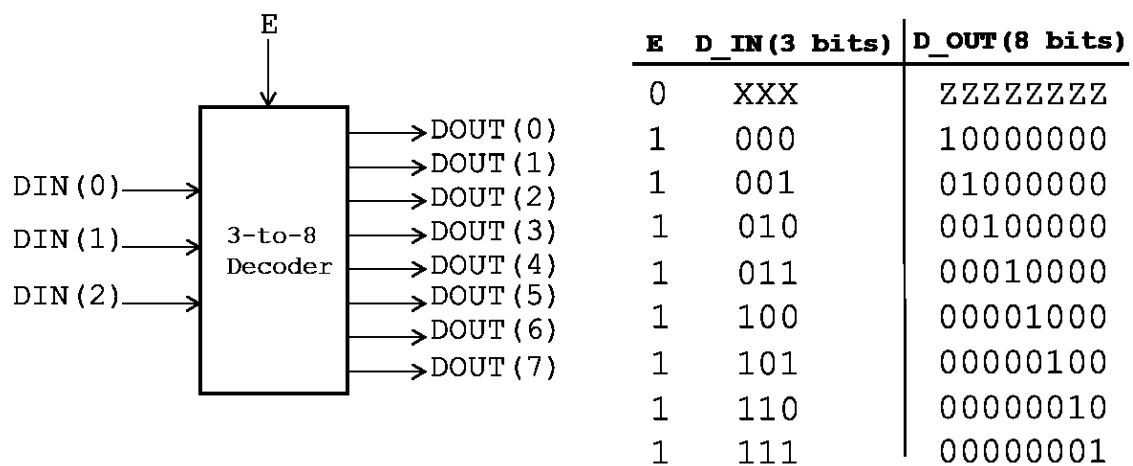

Figure 5-20
**Exercise:** Design a simple 3-to-8 Decoder whose structure and truth table are given below in Figure 5-20. Create “\*.bit” file, upload it to Nexys 4 DDR development kit and observe the results.